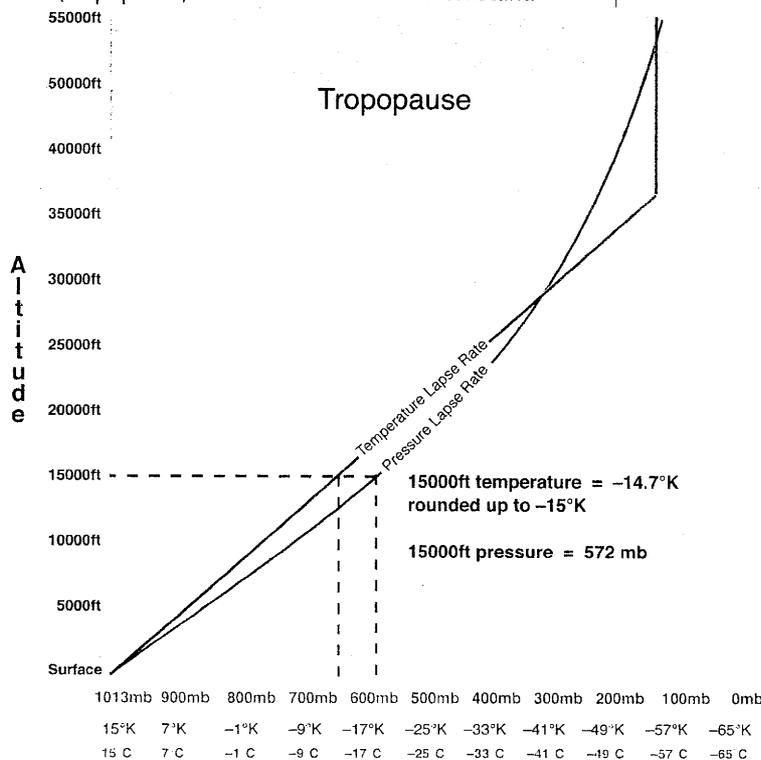

fig T1
See fig T1
The International Standard Atmosphere (ISA) is an arbitrary standard established to provide universal values of temperature, pressure, density, and lapse rate at all altitudes for the purpose of measuring aircraft performance and calibrating aircraft instruments whose sources are barometric. See fig T1.
**The Relationships between Temperature, Pressure, and Density.** See fig T1.
With increased altitude, pressure reduces at a much greater rate than temperature as may be seen in fig T1. The Kelvin temperature scale is used which is the same as the Celsius scale except the Kelvin scale datum (-273°K or absolute zero) is the coldest temperature a substance can potentially be reduced to.